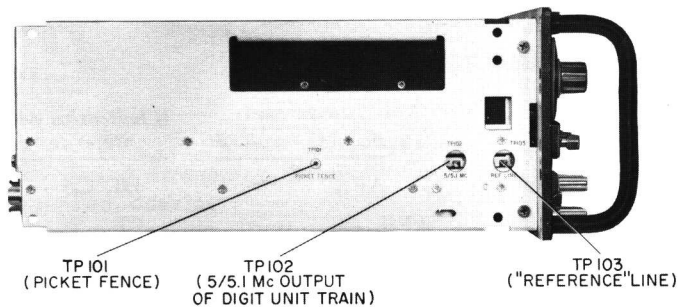

Figure 5-3. Synthesizer left-hand side view, cabinet removed (Types 1161 or 1162).
5.4.6 REMOVAL OF THE ANCILLARY FREQUENCY SOURCE, AFS (Figure 5-3).